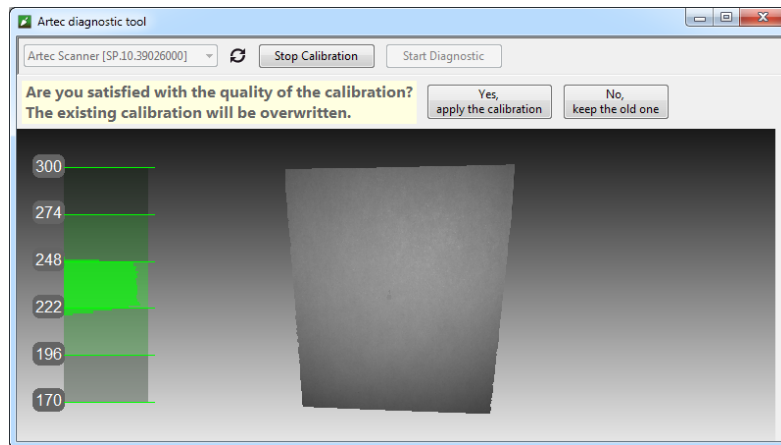

Figure 11.12.: Assessing calibration results.
11. Click *Yes, apply the calibration* if no holes appear on the surface and you are satisfied with the reconstruction results. To reject the new calibration, click *No, keep the old one* (see Figure 11.12.).